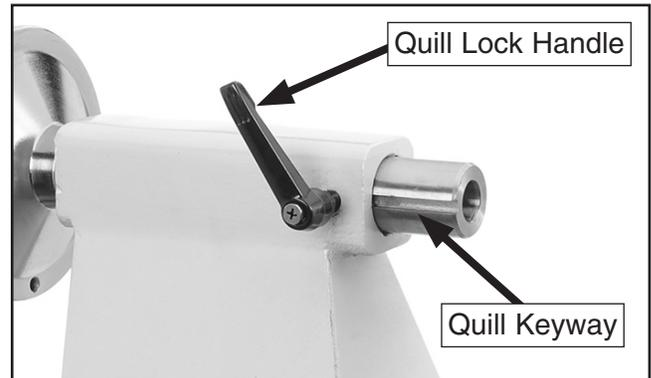

Figure 25. Quill lock handle aligned with quill keyway.
5. Make sure center of quill lock handle is aligned with quill keyway to ensure tailstock center and quill will not freely rotate under load (see **Figure 25**).